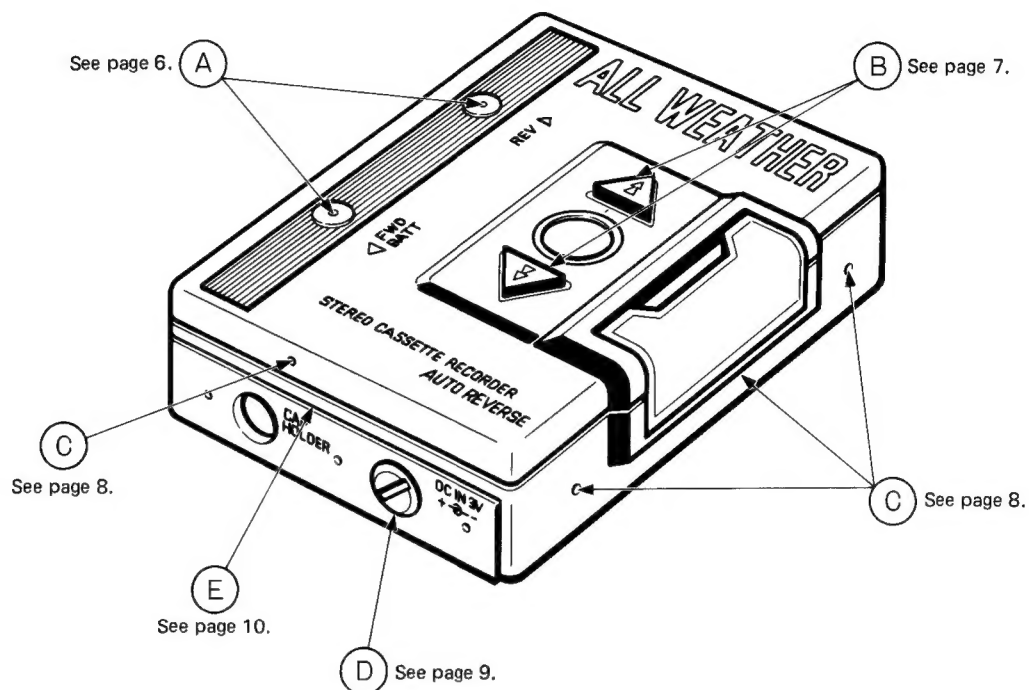

Fig. 8
If a leak is found at any one of points (A) — (I) during the air leak check procedure, refer to the page indicated for that point (see Figs. 8 and 9).